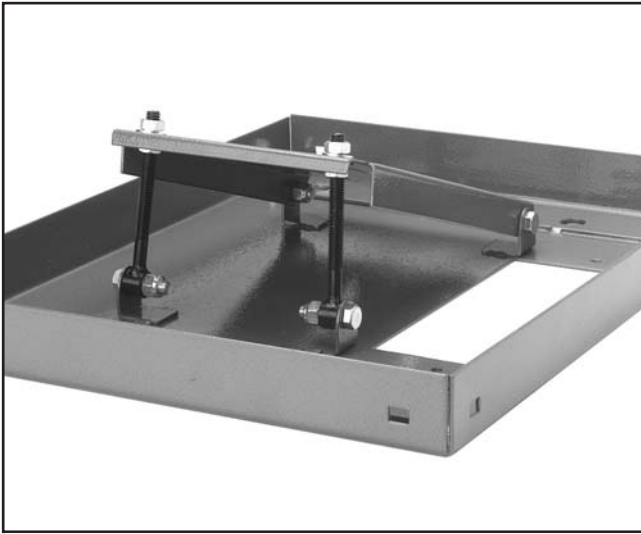

Figure 5. Motor bracket attached to stand top.
2. Using (2) $\frac{3}{8}$ "-16 x $\frac{3}{4}$ " carriage bolts, washers, and hex nuts; attach the motor bracket to the mounts on the stand top without tightening.
3. Place a $\frac{3}{8}$ "-16 hex nut and washer on each adjustment bolt, then rotate the motor bracket over the adjustment bolts, and secure with another $\frac{3}{8}$ "-16 hex nut and washer so your assembly looks like **Figure 5**. Again, do not completely tighten at this time.